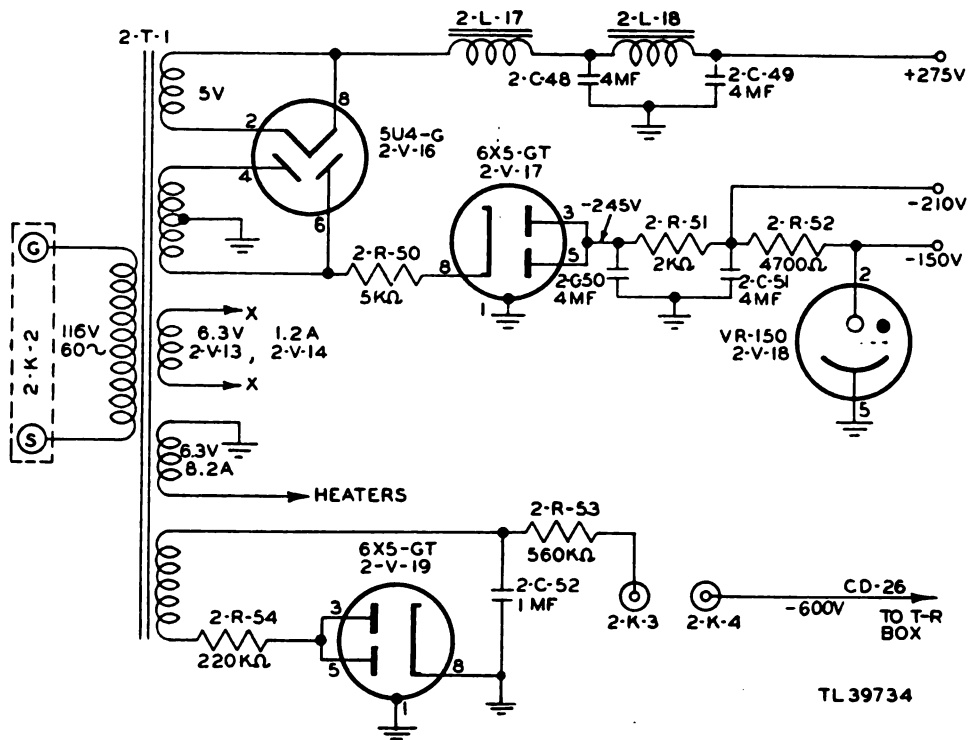

Figure 98. Power supply for Radio Receiver BC-1223-A, simplified schematic diagram.
t. RECEIVER POWER SUPPLY. (1) The receiver power supply (figs. 98 and 99) consists principally of one transformer, two filter chokes, and four tubes. Other than the filament supply, the outputs furnish only four main voltages. They are as follows:
(2) The T-R box supply furnishes a negative keep-alive voltage for the T-R tube by means of a 6X5 half-wave rectifier, 2-V-19. Both plates of this tube are tied together, since no use is made